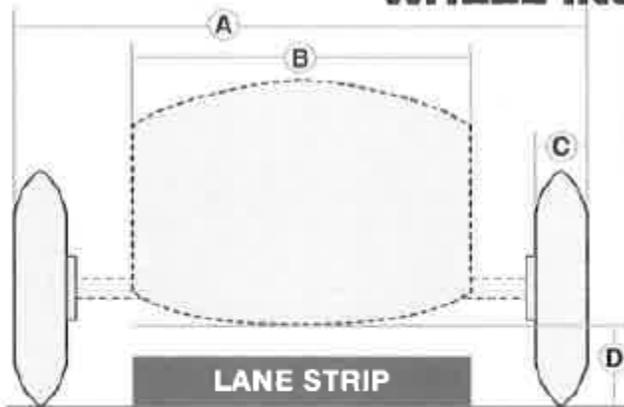
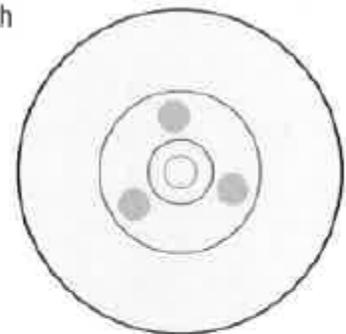

FIG. 1
FIG. 2
The side of the wheel which has 3 round impressions in a triangle around the axle hole has the hub extending from the wheel farther than the opposite side. (See Fig. 2)
1. When mounting wheels, be sure the hub on the wheel is next to the car body as in Fig.1. (See Fig. 2 for location of the hub.)
10. Install wheels and axles (See Wheel Instructions, Fig. 1)